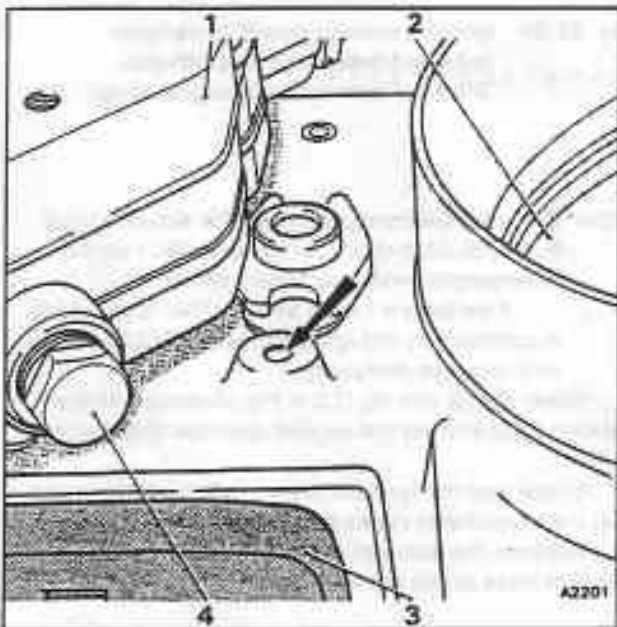

Fig. B3-26 Height adjustment for the air flow sensor plate
8. If the air sensor plate is too high, carefully tap the guide pin lower (see fig.B3-26) using a mandrel and a small hammer.